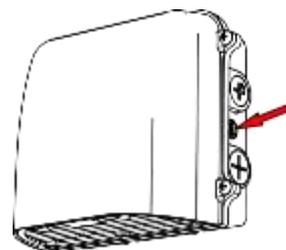

Figure 7
2. To test the unit, press the Test Switch located on the side of the fixture [Figure 7].